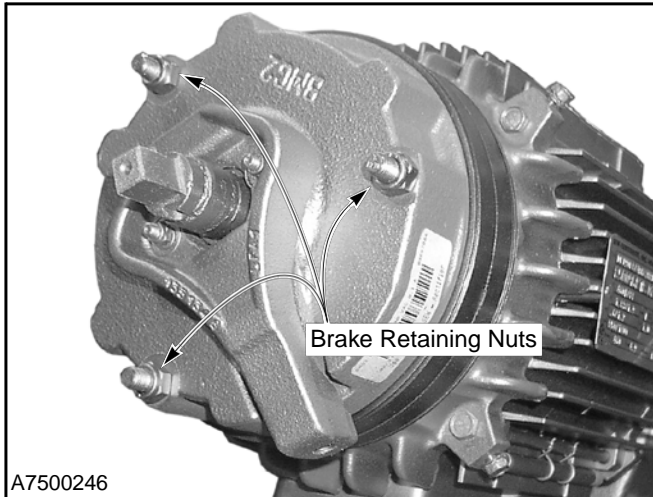
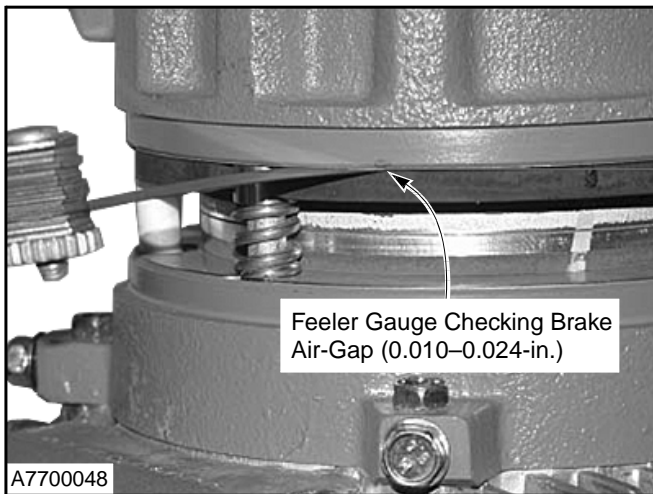

Figure 35
Figure 36
4. Using a feeler gauge and a nut driver, adjust the retaining nuts until you achieve the proper air-gap (0.010–0.024-in.). (See Figure 35 and Figure 36.)